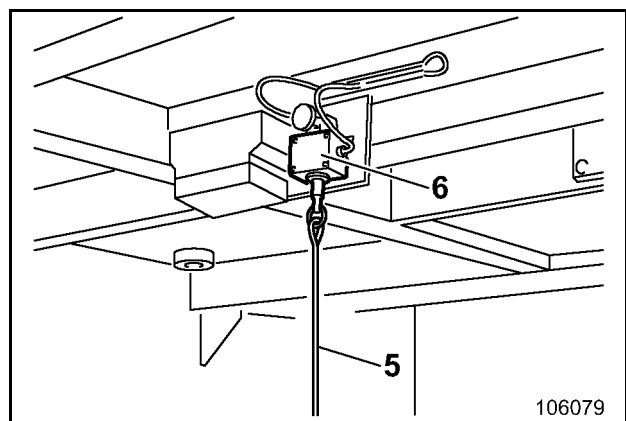

Fig. 2-35:
- by pulling the pull-switch below the counterweight on the left (5, Fig. 2-35:).